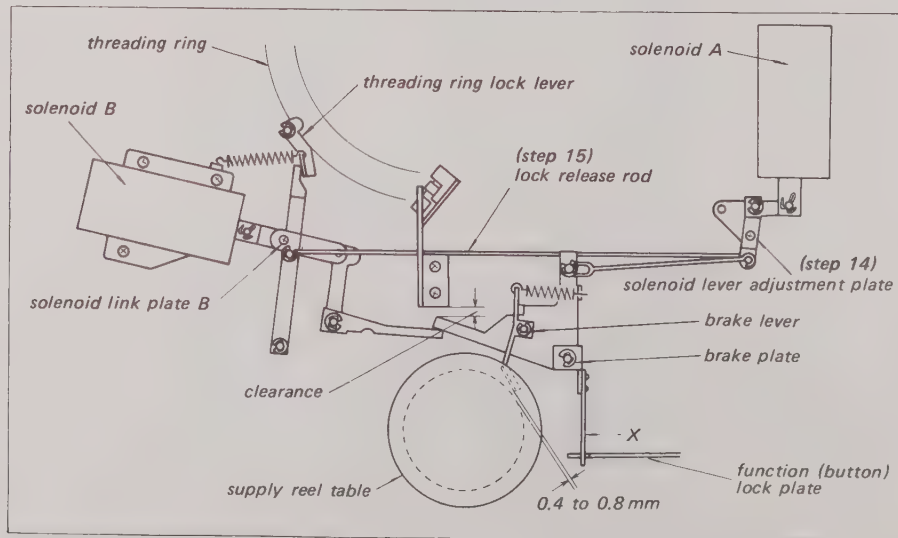

Fig. 5-38. Play mode solenoid linkage adjustment
4. Stop the Take-Up Reel Table by hand and check that the Take-Up Reel Table slips at the limiter smoothly. If the Limiter does not work smoothly even if the correct clearance is obtained in Step 2, there is a lack of drive pressure. Check for possible causes of insufficient pressure. For example, the end of Solenoid Link Plate B might be striking the Bracket that supports the phototransistor (Refer to Fig. 5-38 for location of Solenoid Link Plate B.).
14. Check to see that the brake is released on the Supply Reel Table in the Play Mode. See Fig. 5-38. The brake pad should clear the Supply Reel Table by 0.4 to 0.8 mm. To correct this reading, adjust the Solenoid Lever Adjustment Plate.
Check to see that the part of the Brake Chassis Ass'y marked with an X in Fig. 5-38 is pulling the Function Button Lock Plate all the way to the left. If it does not, bend that part of the Brake Chassis Ass'y marked with an X.